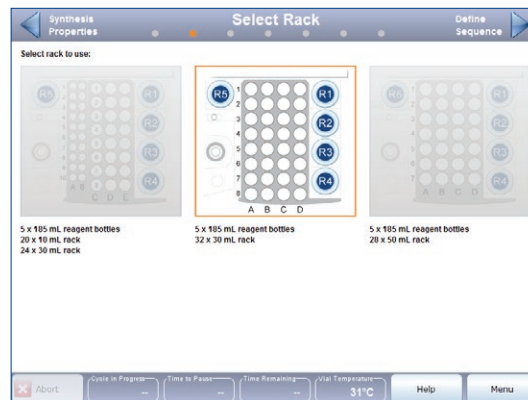

Figure 5. The Select Rack view in the synthesis wizard.
2. Press ►. This opens the **Select Rack** view; see Figure 5. Press the amino acid rack setup you will use for the synthesis.